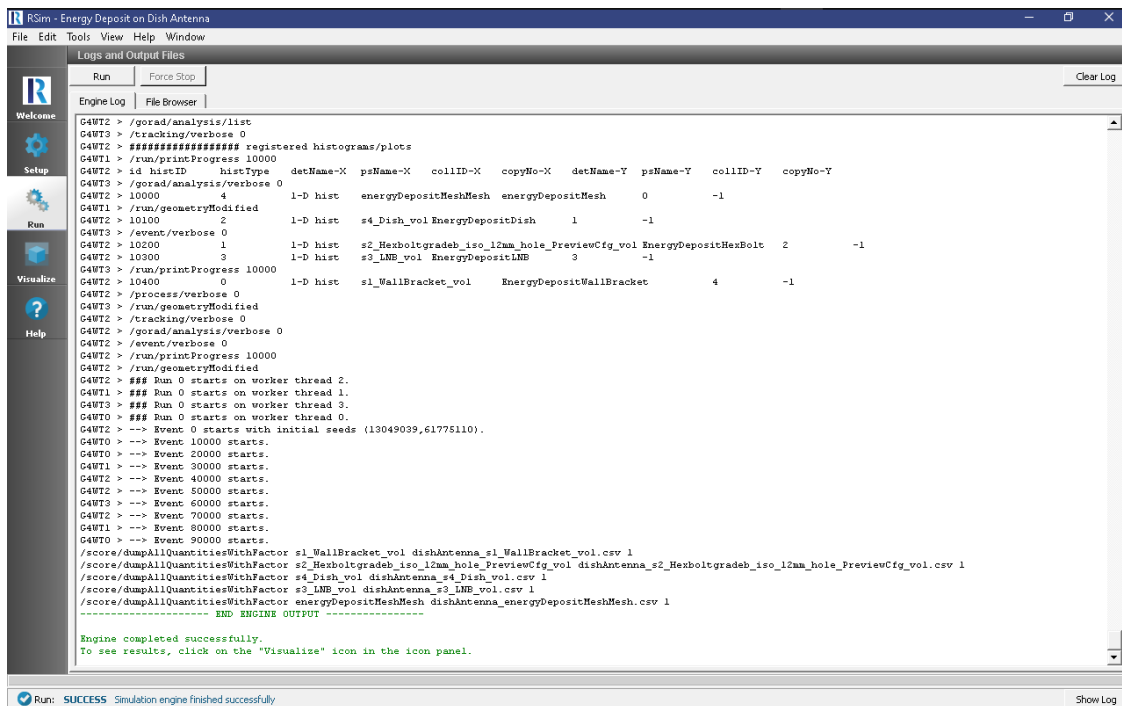

Fig. 2.4: The Run Window at the end of execution.
- To run the file, click on the *Run* button in the upper left corner of the *Logs and Output Files* pane. You will see the output of the run in the right pane. The run has completed when you see the output, “Engine completed successfully.” This is shown in Fig. 2.4.